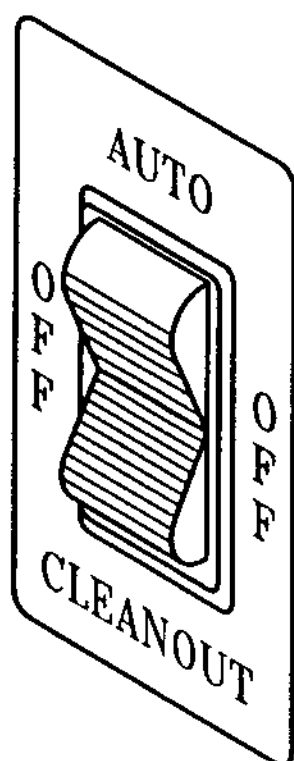

Fig. 2
4. Set each control switch (Fig. 2) to the "CLEANOUT" position momentarily to verify the direction of rotation of the dasher pulleys (Exploded View). They should rotate clockwise viewed from the rear of the machine.